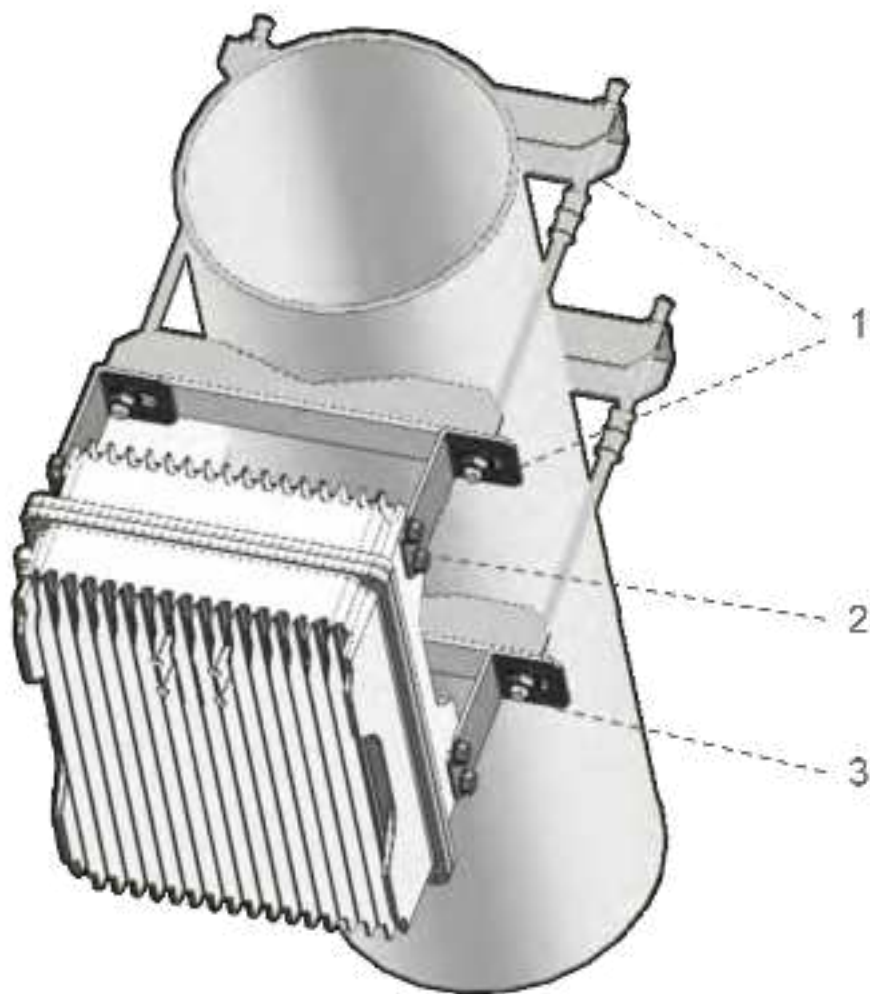

Figure 5.1-2: Assembling and installation on the pole
Step 2: Use the nuts, spring washers, and washers to attach the goRAN™ LTE Base Station to the mounting brackets and tighten the screws as shown in Figure 5.1-2.